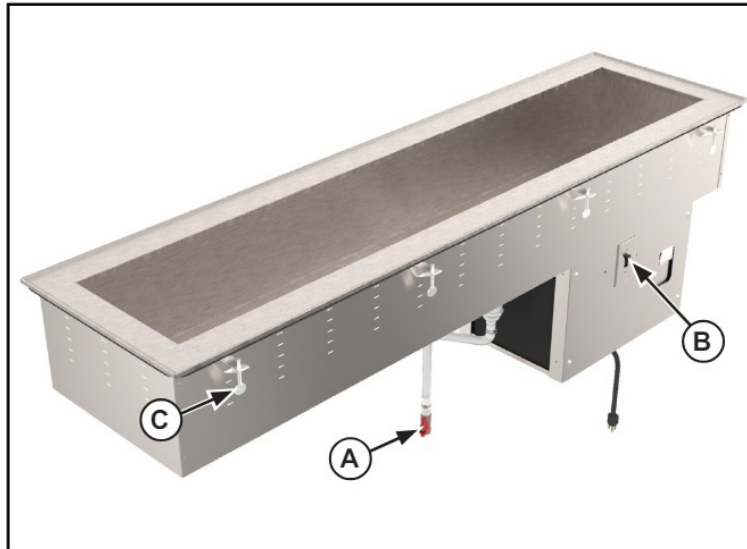

Figure 1. Features and Controls.
5. Tighten the thumbscrews (C) slowly and in an alternating pattern to evenly compress the gasket. See Figure 1.
1. Check the drain valve (A) to verify it is in the CLOSED position to prevent water from draining out. See Figure 1. The valve is in the CLOSED position when the handle of the valve forms a “T” with the body of the valve.
3. Turn the power switch (B) to the “ON” position. This unit does not have an adjustable temperature setting. Allow the unit to run for approximately 30 minutes. For the best performance when using ice with this unit, allow unit to run for approximately 2 hours before adding ice. This will help the ice remain solid.